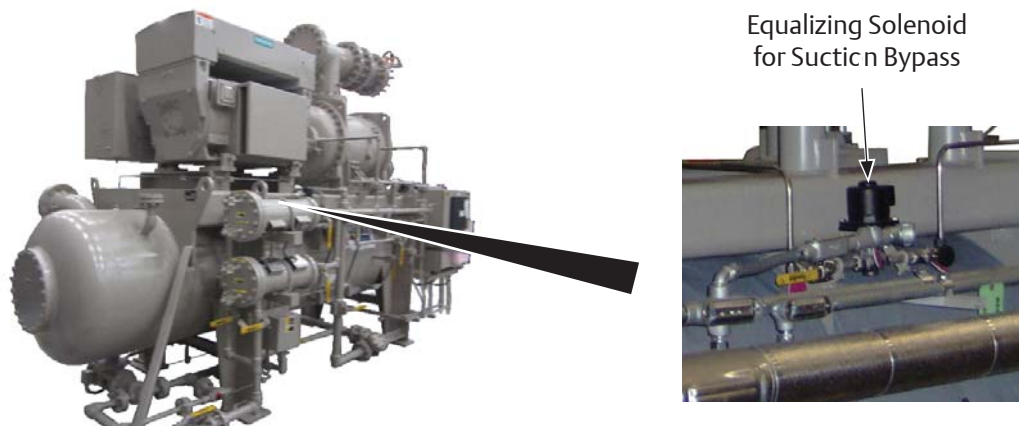

Figure 4-8. Equalizing Solenoid
2. Allow pressure in compressor unit to equalize to suction pressure, see Figure 4-8.
6. Open discharge bleed valve to allow nitrogen to purge through compressor unit, see Figure 4-8.